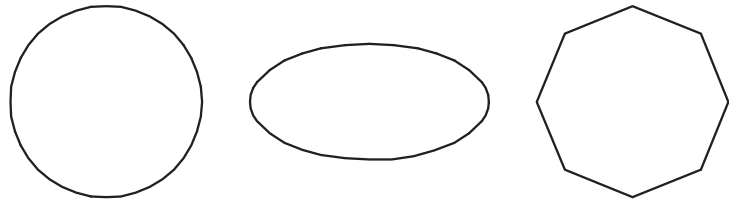

Fig. 11-4
1. Draw the objects shown in Fig. 11-4 at any size and location.